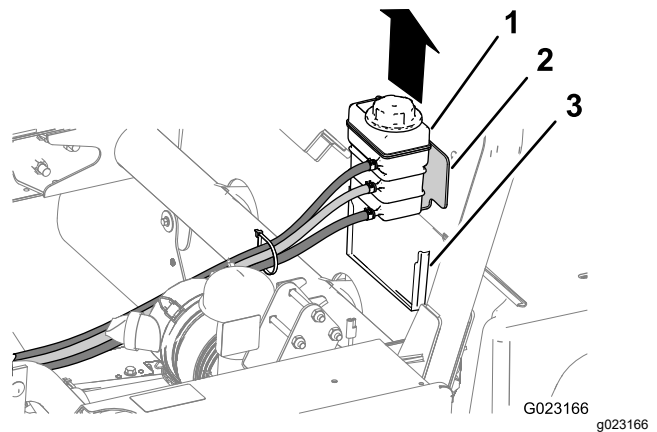

Figure 9
- 1. Lift the coolant tank up and out of the support bracket on the back of the ROPS shield (Figure 9).